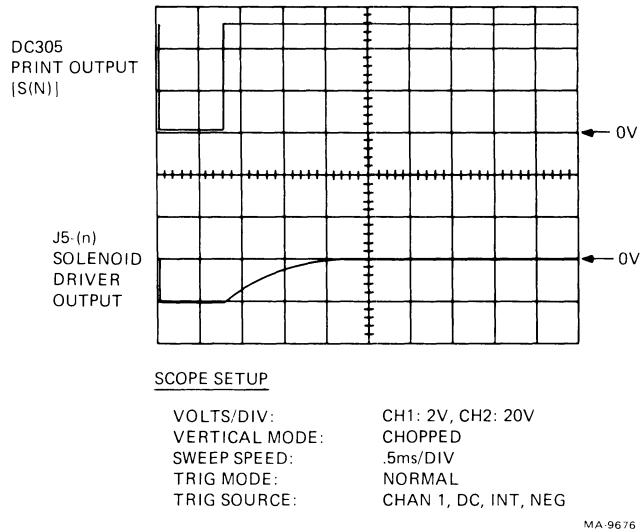
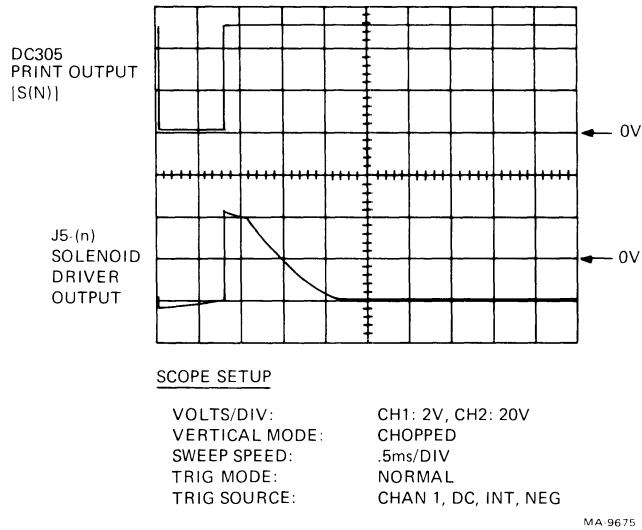

Figure 6-9 Print Solenoid Input vs Output (The Character “I” with Good Driver and Solenoid)
Figure 6-10 Print Solenoid Input vs Output (The Character “I” with Good Driver and Open Solenoid)
4. Connect channel 1 of scope to output of the defective channel of the print controller (E14/E9). Set up scope according to Figure 6-9.
6. A good solenoid circuit will produce a waveform similar to Figure 6-9. A waveform with no pulse on channel 1 indicates a bad print controller. A waveform with a pulse on channel 1 but 0 volts on channel 2 indicates a blown driver chip. A waveform similar to Figure 6-10 indicates an open print wire solenoid or cable.